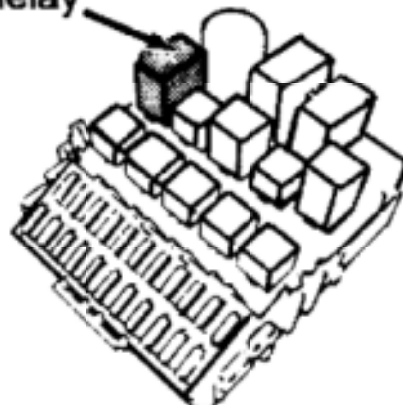
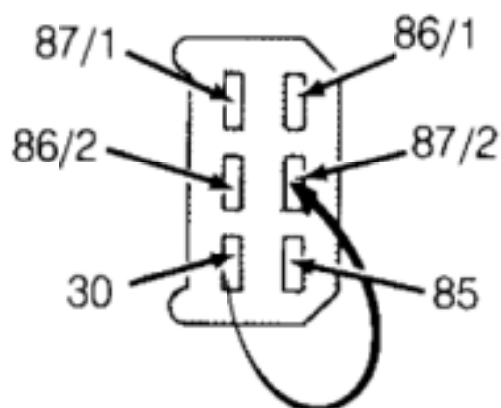

Fig. 1: Locating Fuel System Relay
Fig. 2: Identifying Fuel Injection System Relay Terminals
2) Lift out central electrical unit behind ashtray and remove system relay. See Fig. 1. Connect a jumper wire between relay terminals No. 30 and 87/2. See Fig. 2.
1) Remove fuel injection system relay. Check voltage at terminal No. 30. See Figs. 1 and 2. If battery voltage does not exist, repair wiring between relay connector and battery.
With ECU connector disconnected from ECU, ground ECU connector terminals No. 17 and 21. Pump relay should activate fuel pumps and pumps should start operating. Connect voltmeter between ground and terminal 87/2 in relay. See Fig. 2. Battery voltage should be present. Disconnect ground leads from ECU terminals No. 17 and 21. Replace relay if faulty.